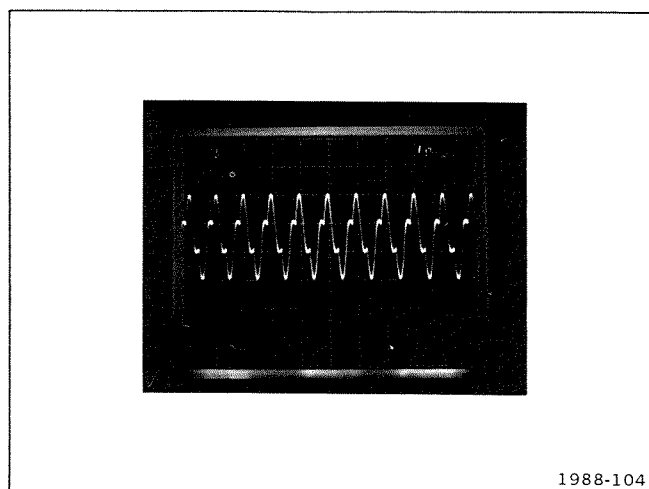

Figure 4-6. Current waveform at T1230 for normal inverter operation at line voltage of 115 V.
5. If a burst waveform was obtained in part 4 above, check for stable inverter operation when the line input voltage is increased to about 85 volts. Figure 4-6 shows the current waveform at T1230 for normal inverter operation at a line source of 115 volts. (NOTE: The test oscilloscope horizontal sweep rate has been changed to about 50 microseconds/-division for Fig. 4-6.)